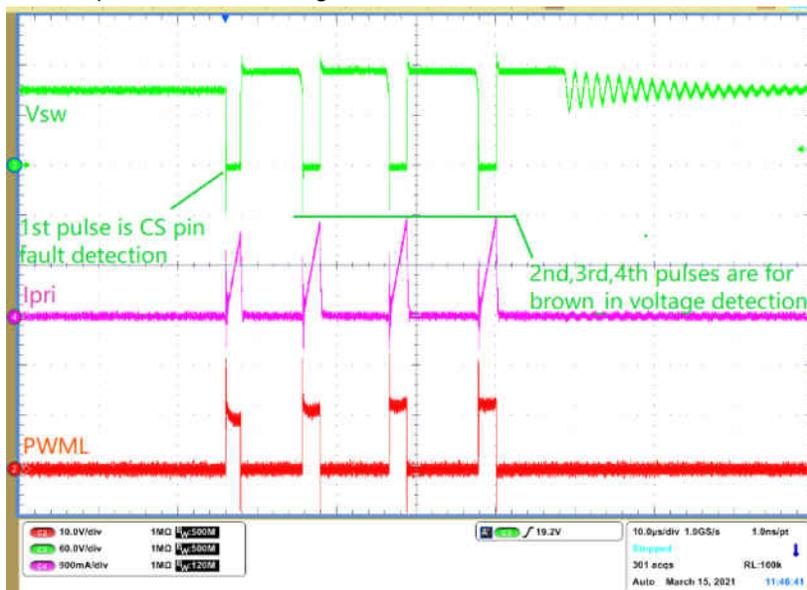

Figure 1-5. Brown-in Voltage Detection – 4 Consecutive Pulses
- Step 4: Gradually increase input voltage until the user can see four consecutive pulses shown in Figure 1-5. The first pulse is for CS pin fault detection, the second, third, fourth pulses are for brown in voltage detection. When the AC input voltage is lower than brown in voltage. The user will always see four pulses at each VDD restart cycle. Further increasing the input voltage until it is above the brown in voltage, the board should be powered up if there is no protection occurring.